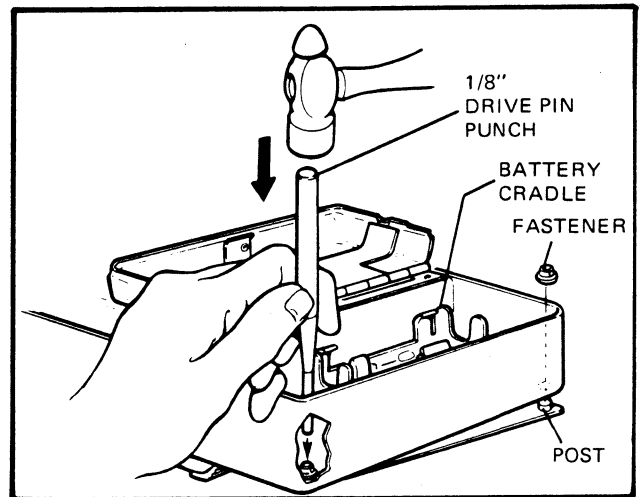

FIG. 5.28 REMOVING THE LEFT HAND GUARD
5. Remove the left hand guard by carefully tapping the posts free of the fasteners using a 1/8" drive pin punch as shown in Figure 5-28.
5. Remove the left hand guard by carefully tapping its posts free of the fasteners using a 1/8 inch drive pin punch (Figure 5-28).